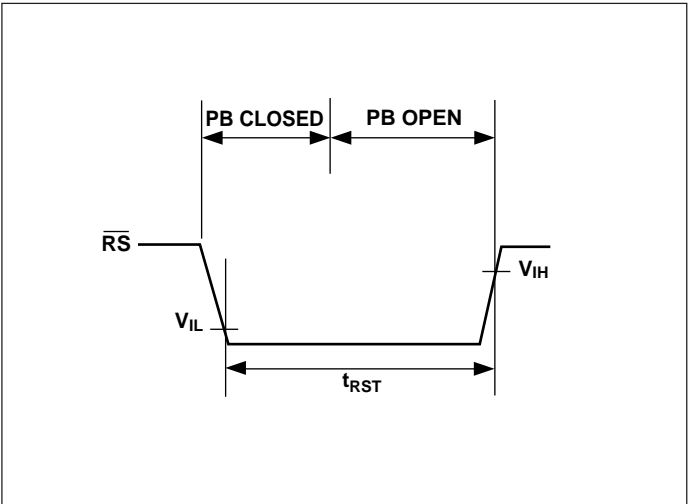

Figure 2. \overline{RS} Pulled Low by Push-button Reset
A built-in debounce circuit allows a push-button switch (PB) or other electronic signal to be wire-ORed to this pin as an external RESET override control. The external RESET is required to be an active low signal. Internally, this input is timed to provide a minimum RESET pulse width of 500msec. Reference Figure 2.